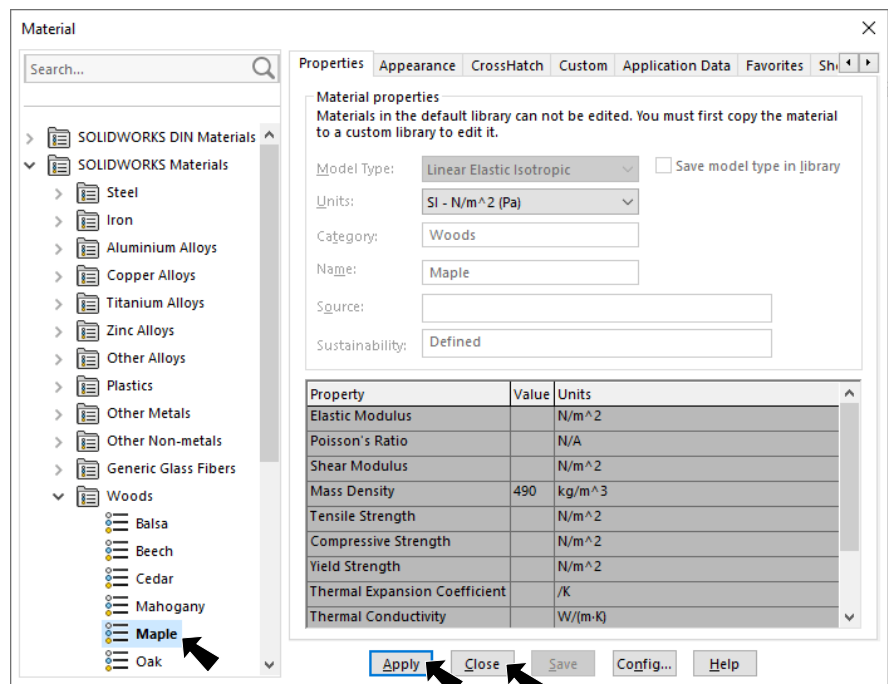

Fig. 10
Step 2. Expand **Woods** (click ) in the material tree and click **Maple**, **Fig. 10**. Click **Apply** and **Close**.